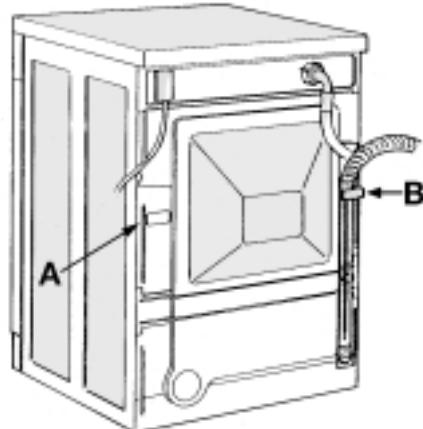

Fig. 1
1. Unhook the drain hose from the left clip, (see arrow A Fig. 1.)
Do not loosen the drain hose connection, see arrow B in Fig. 1, otherwise there is the risk of leakage (danger of scalding with hot water).